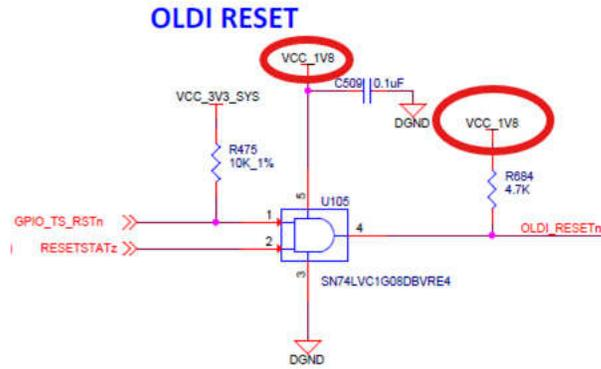
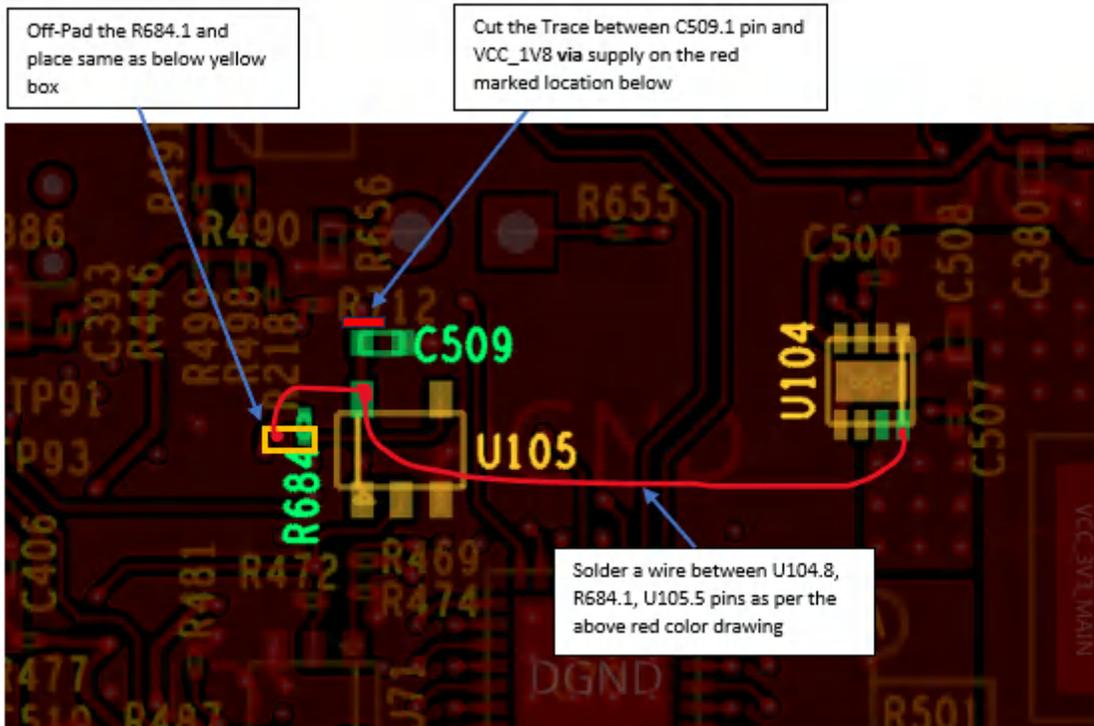

Figure 3-4. OLDI Display RESET Logic Circuit
Figure 3-5. PCBA Bottom Image
**Fix:** To mitigate the issue, the resistor R684, Cap C509 and U105 power supply need to be changed to VCC\_3V3\_SYS, see Figure 3-4 for more information. Please follow Figure 3-5 for the rework information.